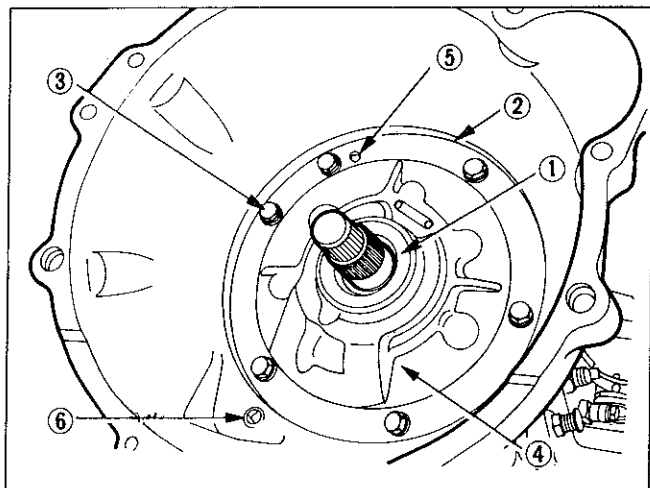
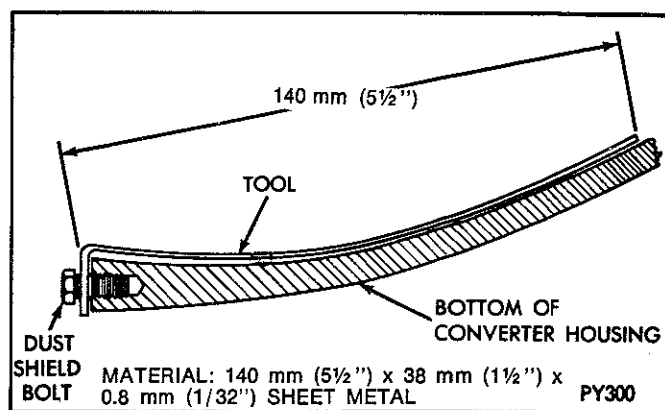

Fig. 70—Transmission converter area
Fig. 71—Leak locating test probe tool
(3) Fabricate and fasten test probe (Fig. 71) securely to convenient dust shield bolt hole. Make certain converter is cleared by test probe. Tool must be clean and dry.
(4) Run engine at approximately 2,500 r.p.m. with transmission in neutral, for about 2 minutes. Transmission must be at operating temperature.
(5) Stop engine and carefully remove tool.
(6) If upper surface of test probe is dry, there is no converter leak. A path of fluid across probe indicates a converter leak. Oil leaking under the probe is coming from the transmission converter area (Fig. 70).
(7) Remove transmission and torque converter assembly from vehicle for further investigation. The fluid should be drained from the transmission and converter. Re-install oil pan (with new gasket), tightening to specified torque.
Possible sources of transmission converter area fluid leakage shown in (Fig. 70) are: